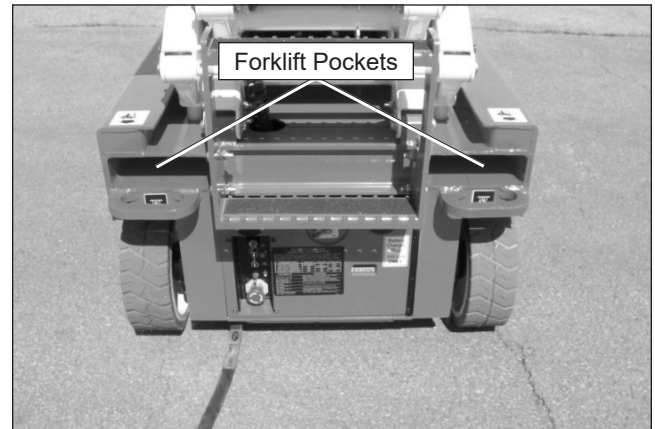

Figure 10.1 – Rear of Chassis
3. Insert the forklift forks into the pockets at the rear of the machine (refer to Figure 10.1).